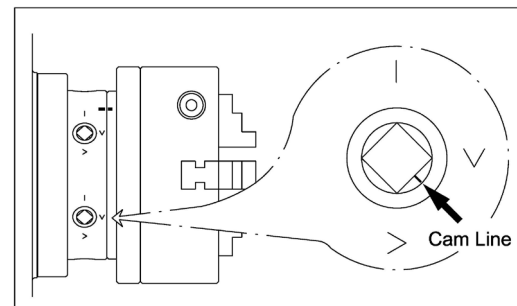

Figure 27. Cam and lines.
7. Turn a camlock with the chuck key until the cam line falls between the "V" marks shown in Figure 27.